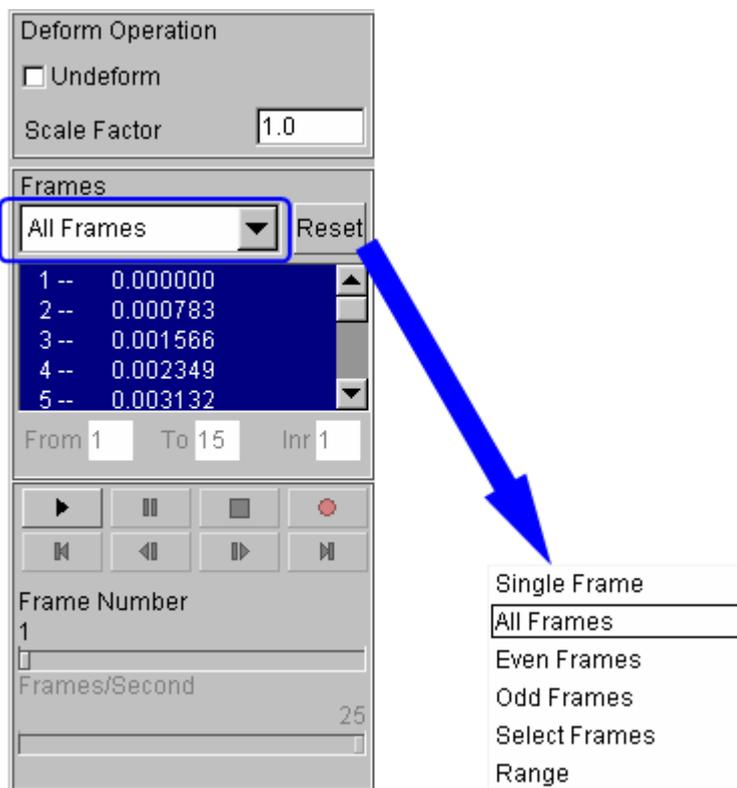

Figure 4.34 Animating deformation dialog box
1. The default **Plot State** is **Deformation**. In the **Frame** dialog, select **All Frames** and click **Play** button to animate the results. See Figure 4.34